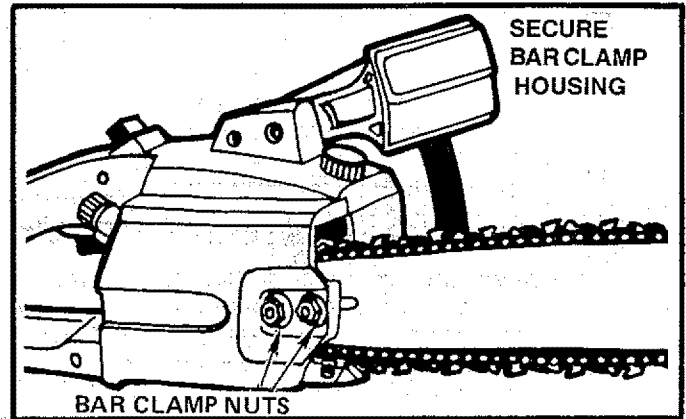

Figure 7
6. Slide the bar forward and fit the adjusting pin into the round hole in the Guide Bar. Figure 7.
7. Hold the Guide Bar against the saw frame and install the Bar Clamp Housing. Figure 7.